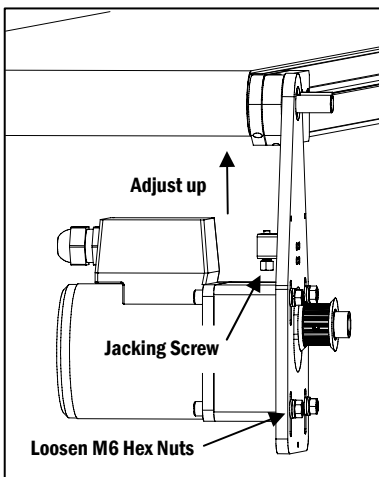
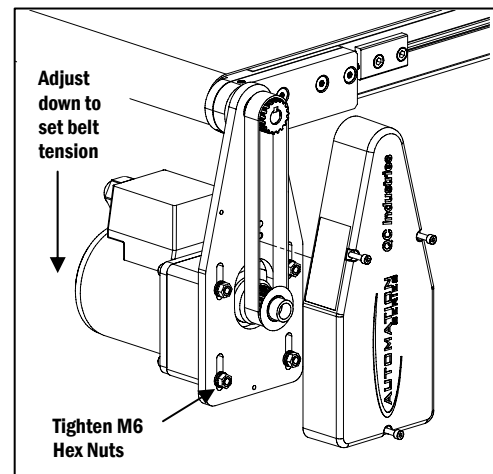

Figure 6
Figure 7
- c. Thread the Tracking Screw up to allow the gearbox (and subplate, if applicable) to move toward the conveyor (**Figure 6**).
⑤ Prepare for operation
- c. Retighten the four M6 Hex Nuts with a box wrench to hold the gearbox (and subplate, if applicable) in position (**Figure 7**).